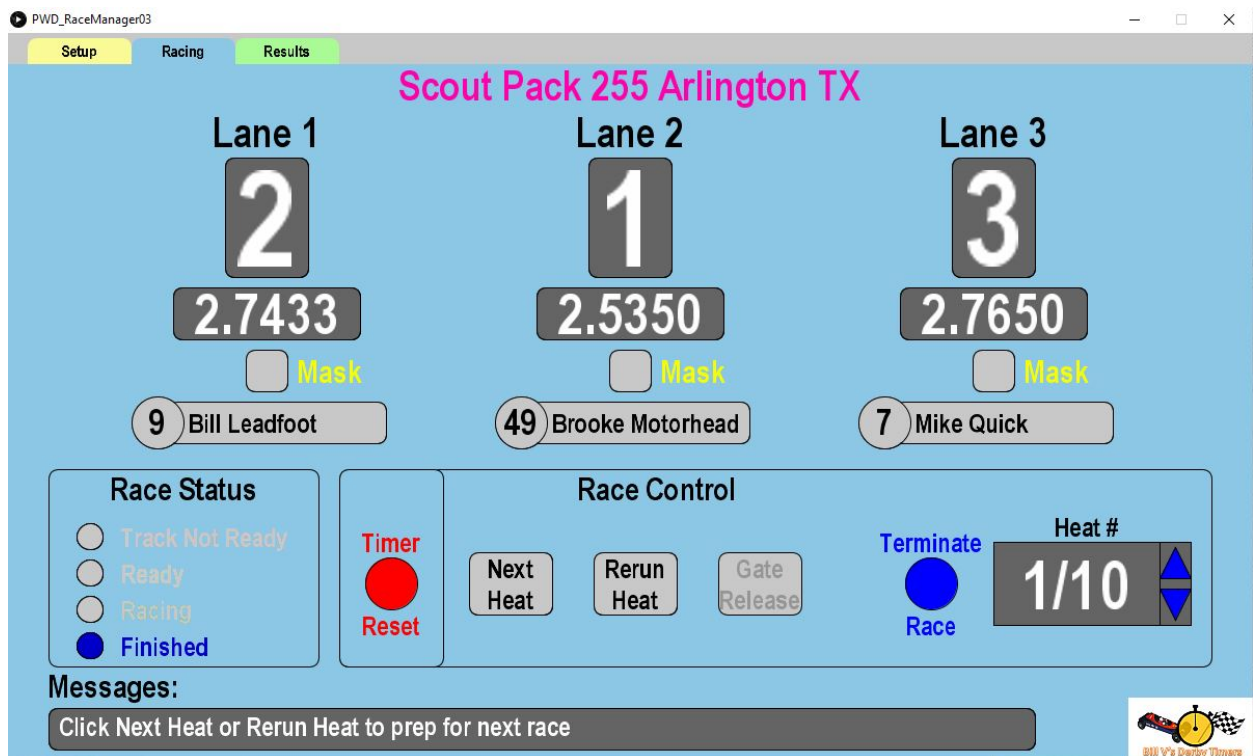

Figure 6 – Race Finished Example
8. Wait for all cars to cross the finish line or when 10 seconds has elapsed, whichever occurs first (Refer to Fig. 6).